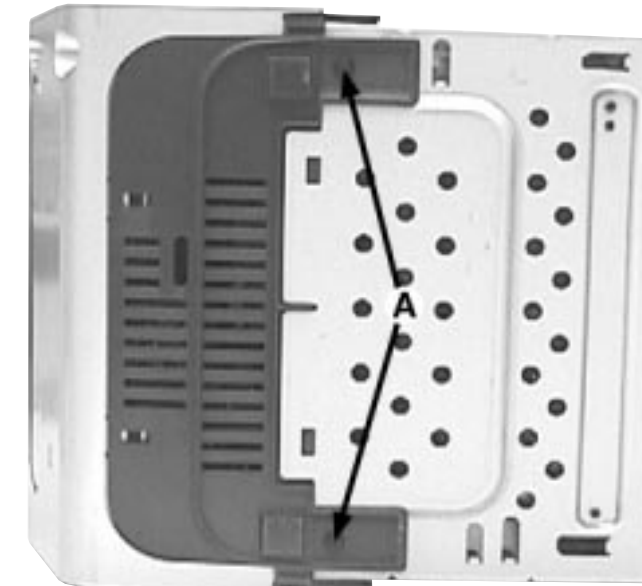

Figure 5
- 1) Remove 2 screws A (pos 226) as shown in Figure 5 from the bottom of the Cabinet Front (pos 101).